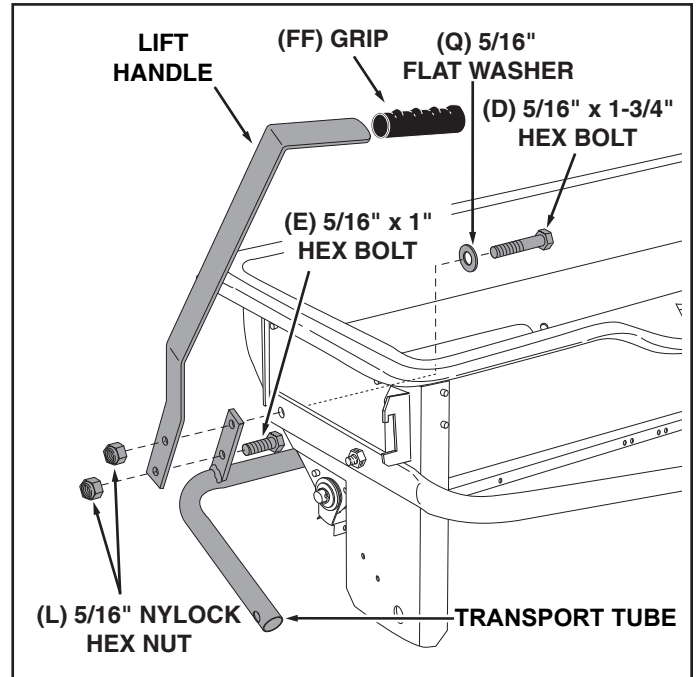

FIGURE 2
4. Assemble the grip onto the lift handle. See figure 2.
5. On the right side, insert a 5/16" x 1-3/4" hex bolt through a 5/16" flat washer and then through the rear hole in the hopper and the hitch tube. Assemble the transport tube and then the lift handle onto the bolt and secure with a 5/16" nylock hex nut. **Do not tighten yet.** See figure 2.
6. Assemble a 5/16" x 1" hex bolt and 5/16" nylock hex nut to the bottom hole in the transport tube assembly and the lift handle. **Tighten.** See figure 2.
- Tighten, but do not overtighten** the two 5/16" x 1-3/4" hex bolts assembled in figures 2 and 3. The lift handle must be able to pivot.